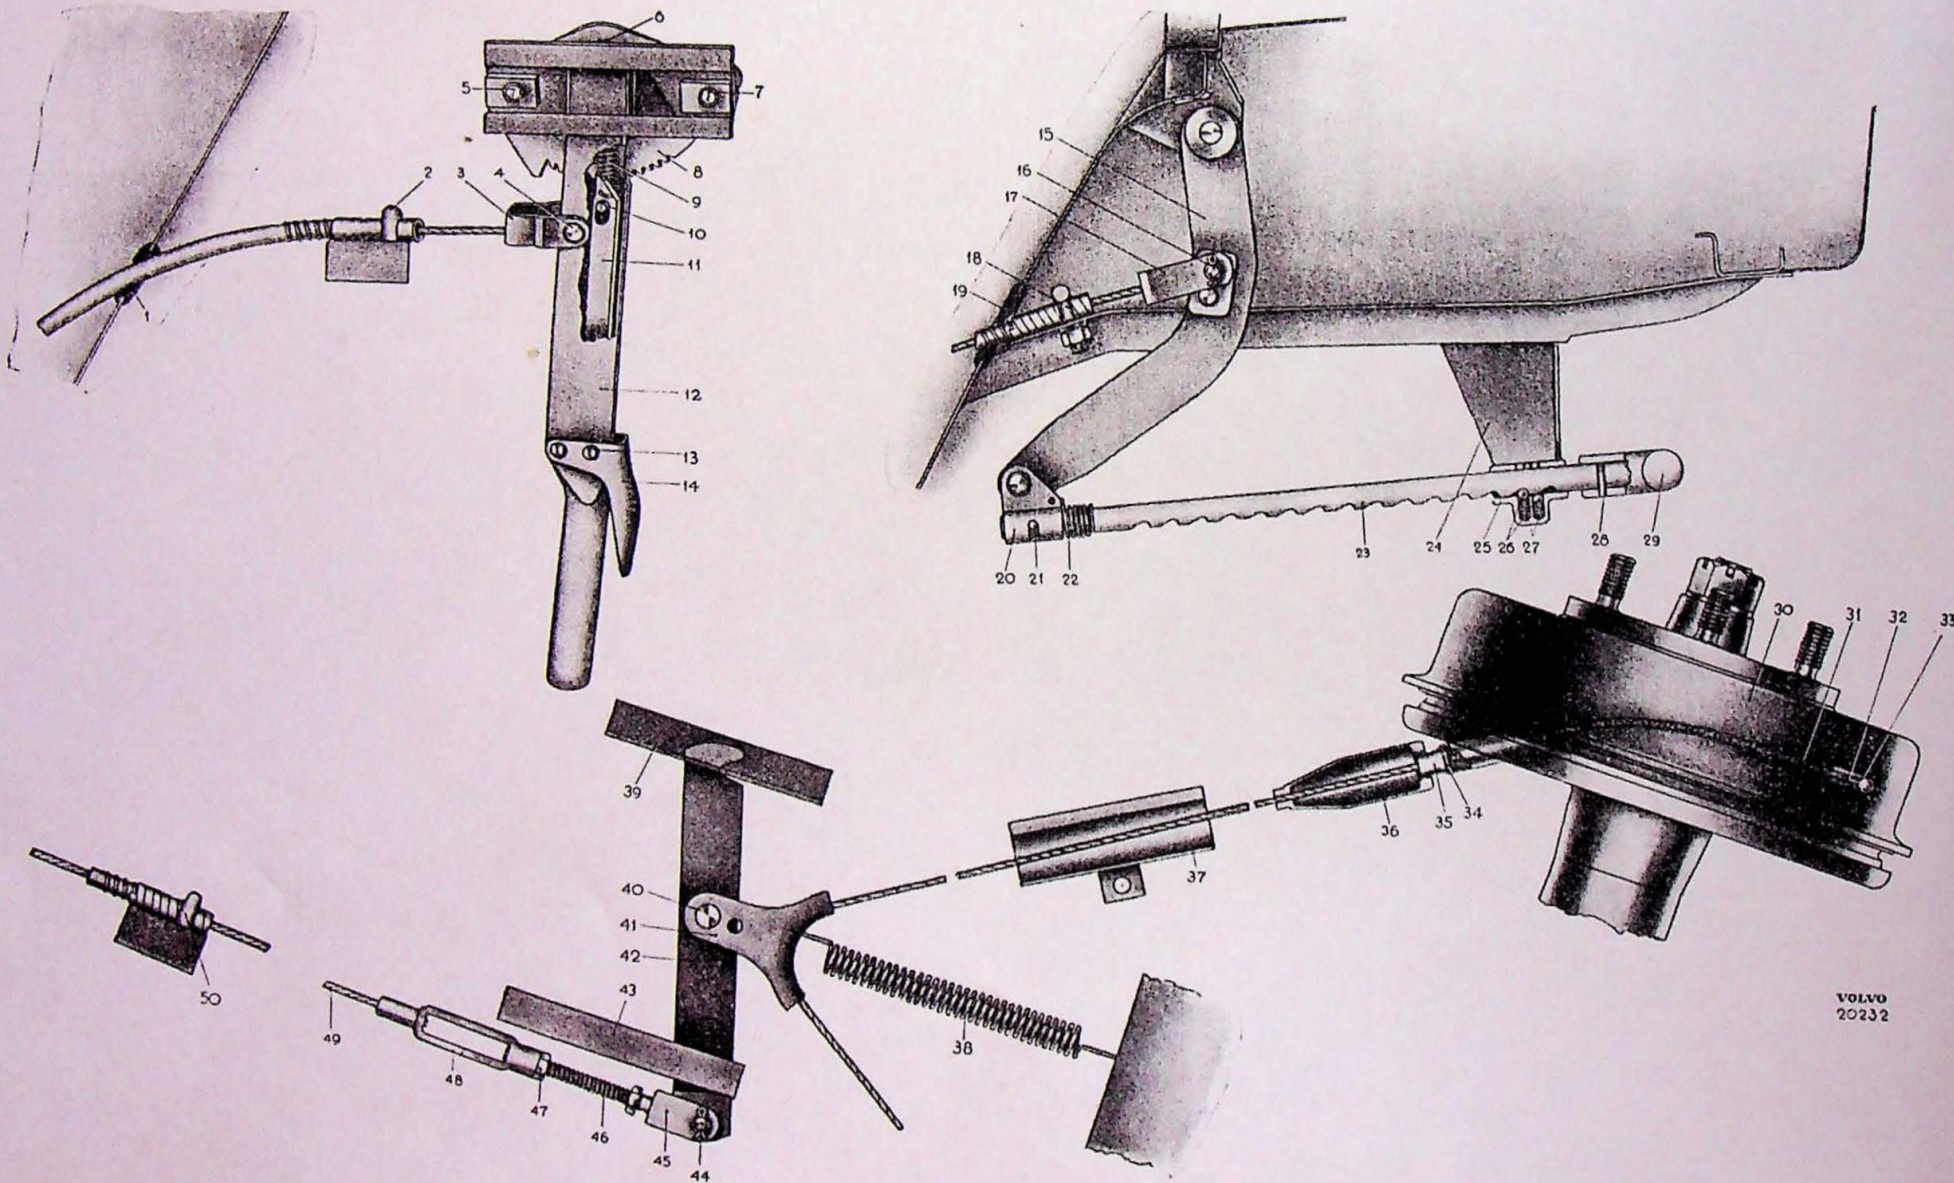
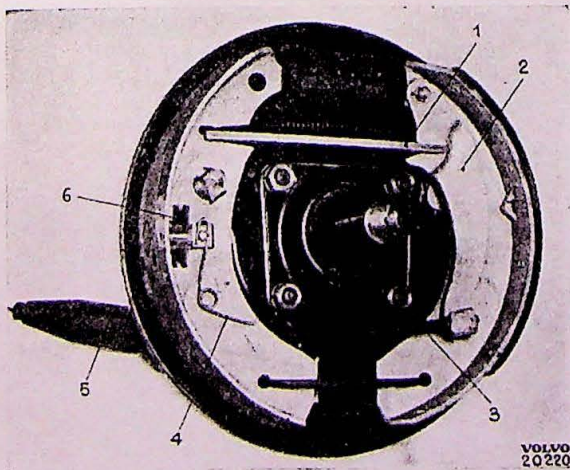

Fig. 2. Handbrake system.
Fig. 13.
2. Disconnect the return spring (38, Fig. 2) and remove the bolt (40) for the equalizer link (41).
4. Disconnect the cable (3, Fig. 13) from the lever (2) on the rear brake shoe.
5. Remove the rubber cover (5) from the pipe flange on the backing plate.
6. Drive in the guide sleeve (35, Fig. 2) with a thin drift and remove the lock washer (34). It is now possible to pull out the cable
1. Readjust the screw (46, Fig. 2) with the tensioner sleeve (48). Put the cable into the equalizer link (41) and attach it to the intermediary lever (42).
2. Push the cable and the guide sleeve through the support (37) and then continue pushing it through the pipe in the brake backing plate. Fit the lock washer (34) and push the guide sleeve into position, see Fig. 2. Attach the cable to the lever.
3. Pull on the rubber cover (36). Fit on the brake drum together with the hub and wheel.
1. Remove the bolt (44, Fig. 2) which attaches the yoke (45) to the intermediary lever (42) and disconnect the lower attaching clamp (50).
2. Release the clamp (2 and 18) for the cable and remove the yoke bolt (3 and 17) on the handbrake lever (12) and forward intermediary lever (15) respectively.
3. Pull out the cable and unscrew the yoke and bolt from the tensioner sleeve (48).
4. Attach the yoke to the tensioner sleeve on the new cable. Push the cable into position and tighten the clamp and attaching clamp. Attach these to the handbrake lever and forward intermediary and intermediary levers (42) respectively.
3. Disconnect the return spring (2) by using a brake spring plier (1) of the larger type.
4. Remove the lock for the eccentric (3) and lift the shoes off the backing plate. When disassembling the rear wheel brakes first move the lever (2, Fig. 13) forward and disconnect the cable (3).